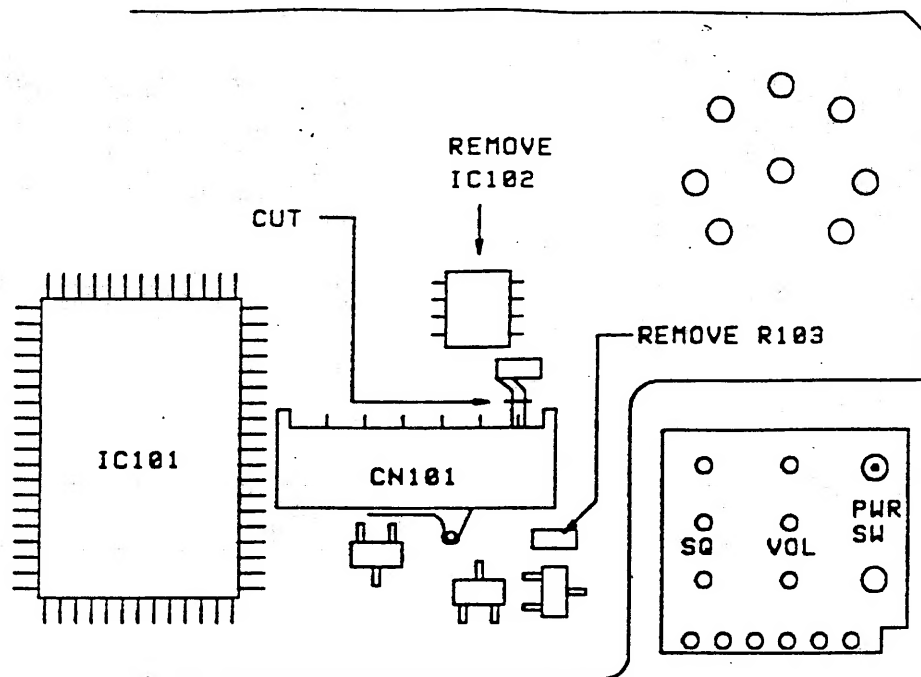

FIGURE 6
13. Remove IC102 from the Control board. Since this device is glued to the board, use a needle tip tool to lift each pin as you melt the solder. Then pry the chip off the board with a craft knife. Figure 6
15. Remove chip resistor R103. Do not melt connector CN101. Figure 6
16. Cut the foil pattern between connector CN101 and chip capacitor C102. Make the cut as close to connector CN101 as possible. Figure 6